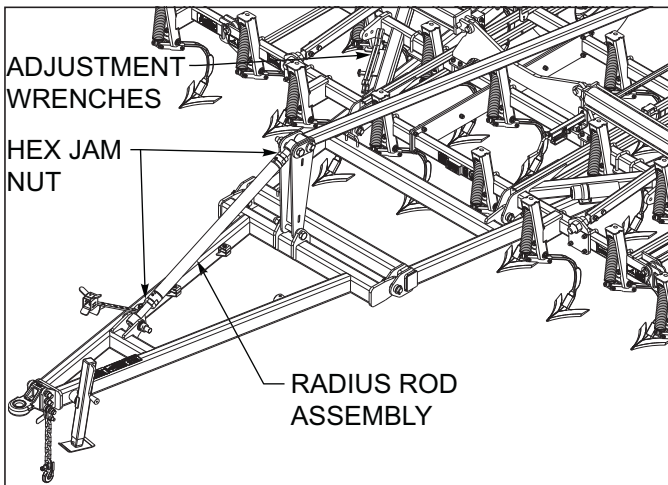
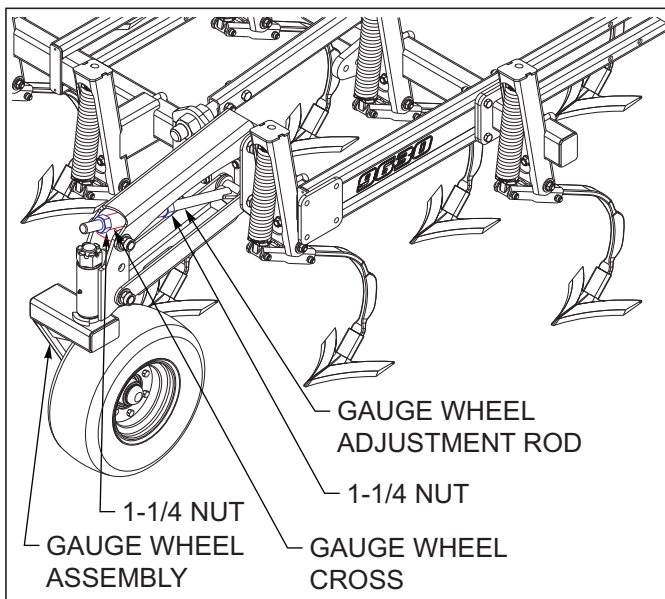

Figure 4-6: Radius Rod Adjustment
Figure 4-9: Gauge Wheel Adjustment
2. To adjust the cultivator hitch height, loosen the hex jam nuts on each end of the radius rod assembly located above the hitch *See Figure 4-6*. Adjustment wrenches are stored on the center frame to make this adjustment. Extend or retract the radius rod to obtain the desired hitch height.
3. To adjust the gauge wheel depth, loosen and adjust the nuts on each side of the gauge wheel cross *See Figure 4-9*. A wrench is provided on the implement for this adjustment *See Figure 4-6*. All other connections should remain tight. Securely tighten the adjusting nuts when complete. All gauge wheel assemblies should be set the same. Verify adjustment by measuring the length of the bolt centers of the gauge wheel adjustment rod.